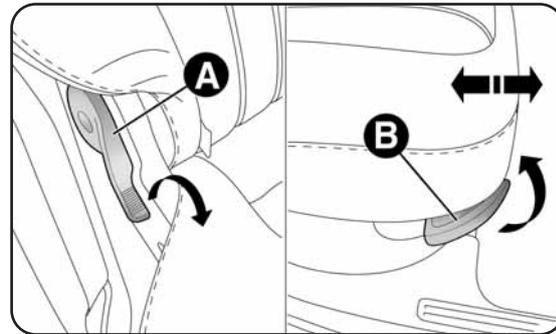

fig. 59
- operate one of the levers A-fig. 59 to tilt the desired seat (to aid this operation, slightly move the seat forward using lever B);
To extend the luggage compartment further, the rear seats can be pushed forwards by operating handle B-fig. 59 (for versions/markets where provided).